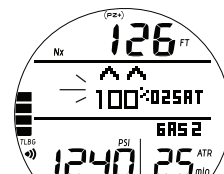

Fig. 67 - O2 ALARM
If O2 reaches the Alarm level; the Audible will sound again during which (2) Up Arrows and the O2 value 100 with graphic %O2SAT will flash until on the surface (Fig. 67).